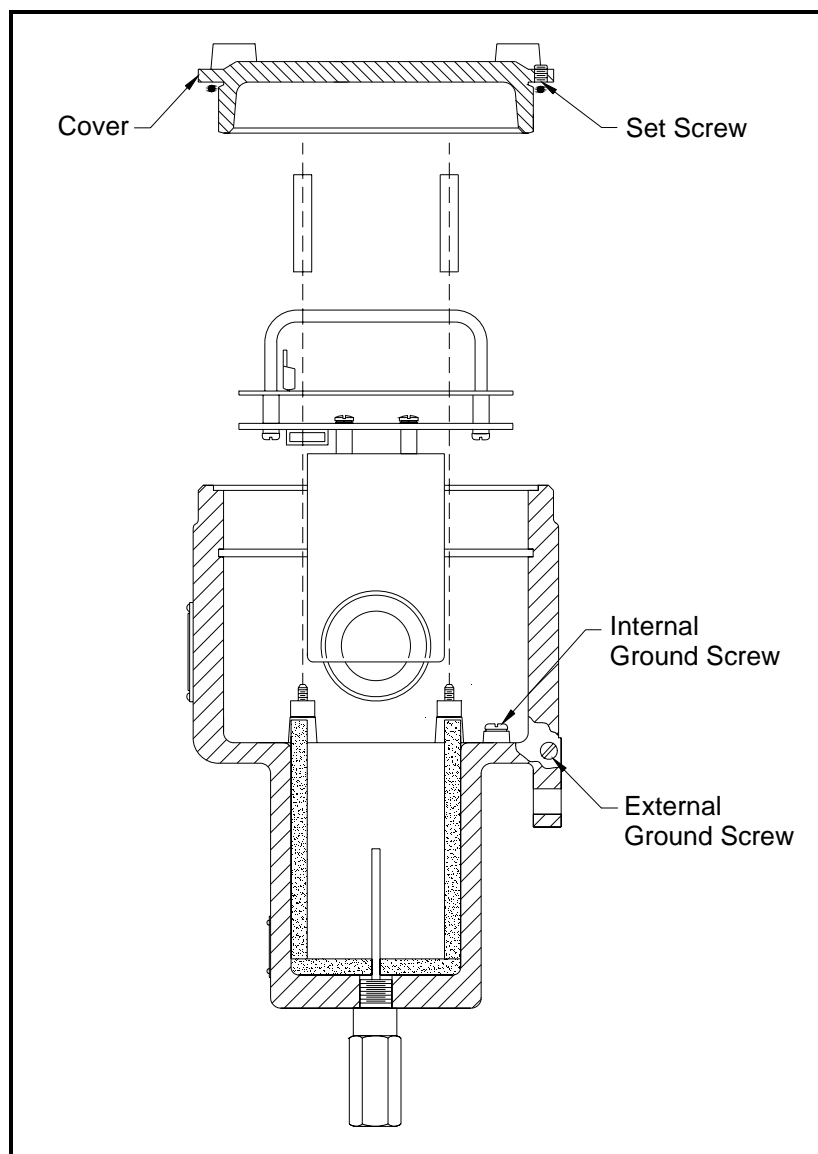

Figure 2-2: Locations of the XMO2 Ground Screws
1. Use Figure 2-2 below to locate the desired ground screw.